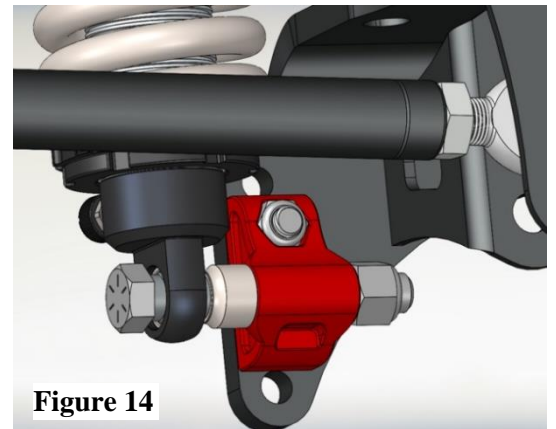

Figure 14
26. Attach the shock to the axle bracket using 5/8" x 4.5" bolts with the included 3/4" stand-off spacer. **(Figure 14)** The final torque for this connection is 50 lb. ft., although the axle will need to be removed again before final installation.